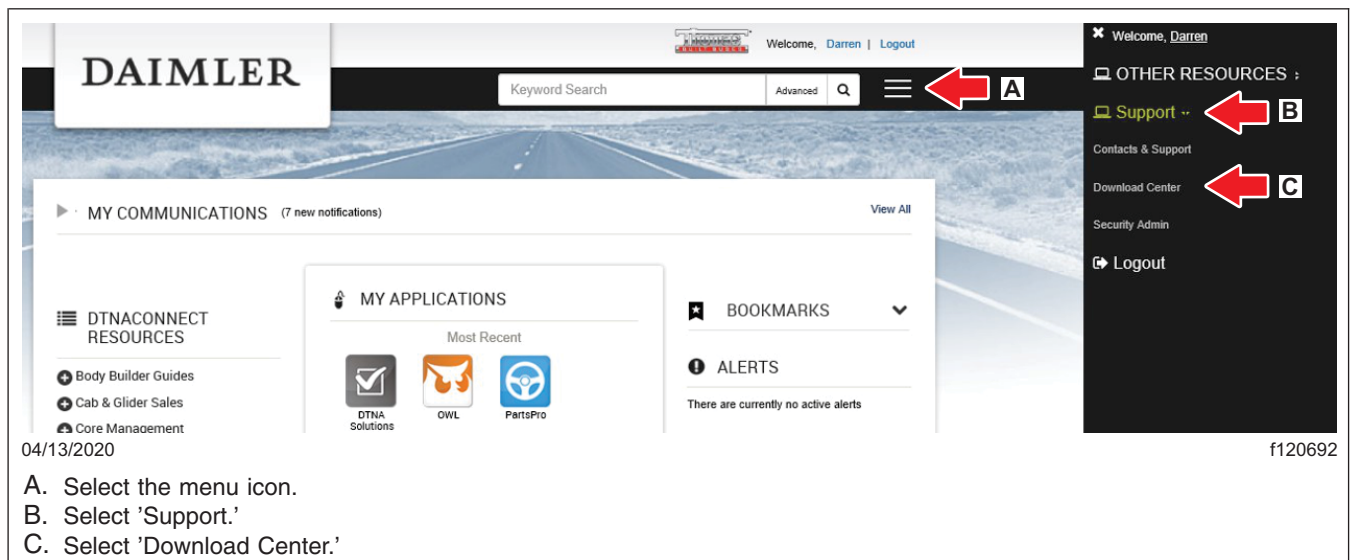

Fig. 1, DTNAConnect Screen
4. In the upper right-hand corner, select the menu icon. See **Fig. 1**, ref. A.
5. Select 'Support,' then select 'Download Center.' See **Fig. 1** ref. B and ref. C.